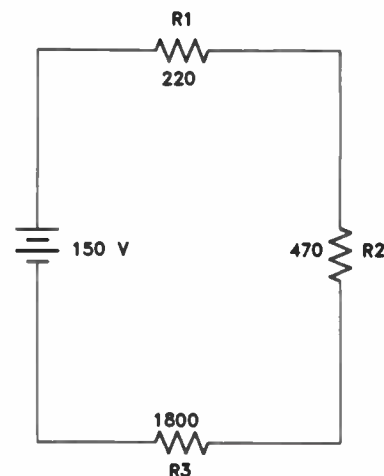

Figure 12. A possible voltage divider arrangement.
Given a source voltage of 100 V, the voltages would be 8.8 V across R1, 18.8 V across R2, and 72.3 V across R3. If the source voltage is changed to 150 V, as shown in Fig.12, we can find the voltage drop across each resistor by simply taking its percentage of the source voltage. In this case, that would be 150 x 0.088, or 13.2 V across R1, 150 x 0.188, or 28.2 V across R2, and 150 x 0.723, or 108.4 V across R3.
- 16 Determine the voltage drops of the circuit shown in Fig.12 by using Ohm's law to calculate the circuit current first. Do these figures correspond with the percentage values listed in the text above (8.8%, 18.9%, and 72.3%)?